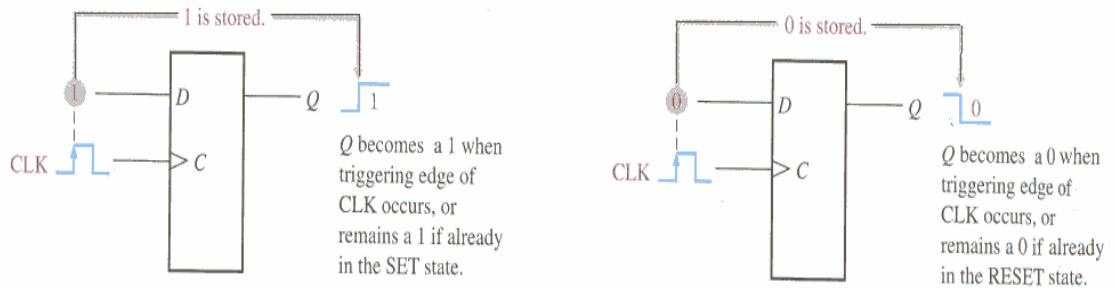

Figure 1.2: The flip-flop as a storage element.
- ?? Two basic functions: data storage (Figure 1.2) and data movement (Figure 1.1).